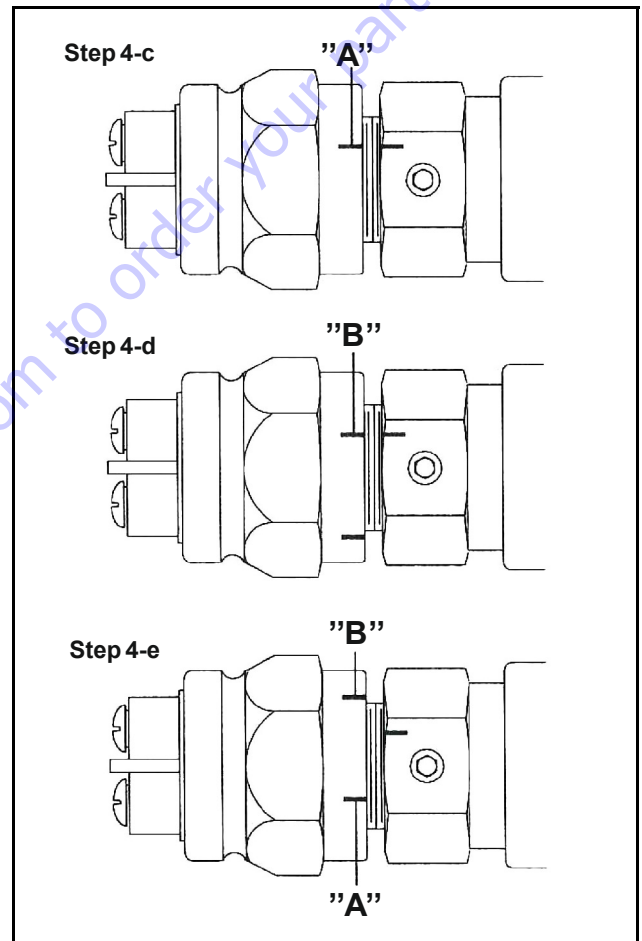

Figure 5-160. Neutral Lockout Switch Assembly
- c. Move the control arm out of the detent position. The test light will go on. Screw in the switch until the light goes off. Mark this as position "A". See Figure 5-160. Move the control arm to the detent position and the test light should come back on.
- e. Unscrew the switch one third of the distance between "B" and "A". Install and tighten the hex socket head set screw in one of the main quadrants of the hex of the switch adapter. See Figure 5-160. Torque set screw 2.3 to 2.8 in.lbs (3.2 to 3.8 Nm).